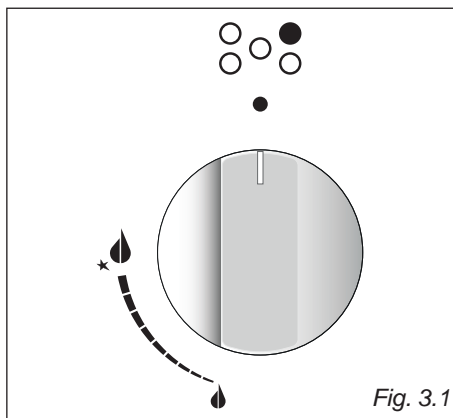
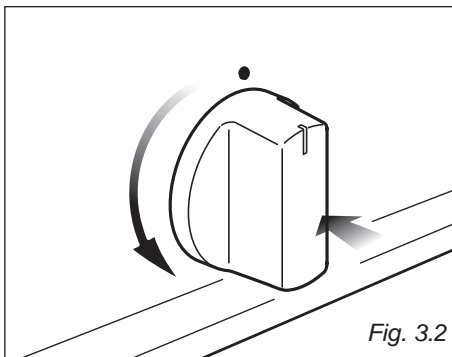

Fig. 3.1
Fig. 3.2
- Remove the screw securing the cover “A” on the rear of the cooker (fig. 3.2).
Gas flow to the burners is adjusted by turning the knobs (illustrated in fig. 3.1) which control the safety valves.
1. Press in the corresponding knob and turn counter-clockwise (fig. 3.2) to the full flame position marked by the  symbol (fig. 3.1); hold the knob in until the flame has been lit.